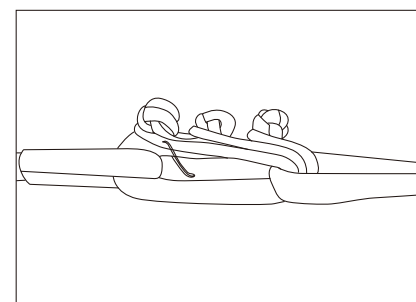

FIG 5
6. When using more than one QWIKrope® LINK Soft Shackle, you must stagger the knuckles to keep the rope diameter to a minimum (FIG 5).